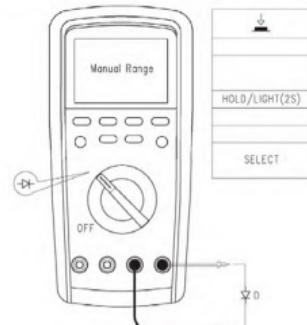

Fig. 6
4. Diode measurement (see Fig. 6)